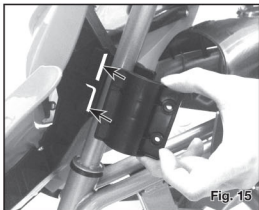

Fig. 15
18. Insert the Mount cover^⑦ to the Front nose mount^⑧ (see Fig. 15).